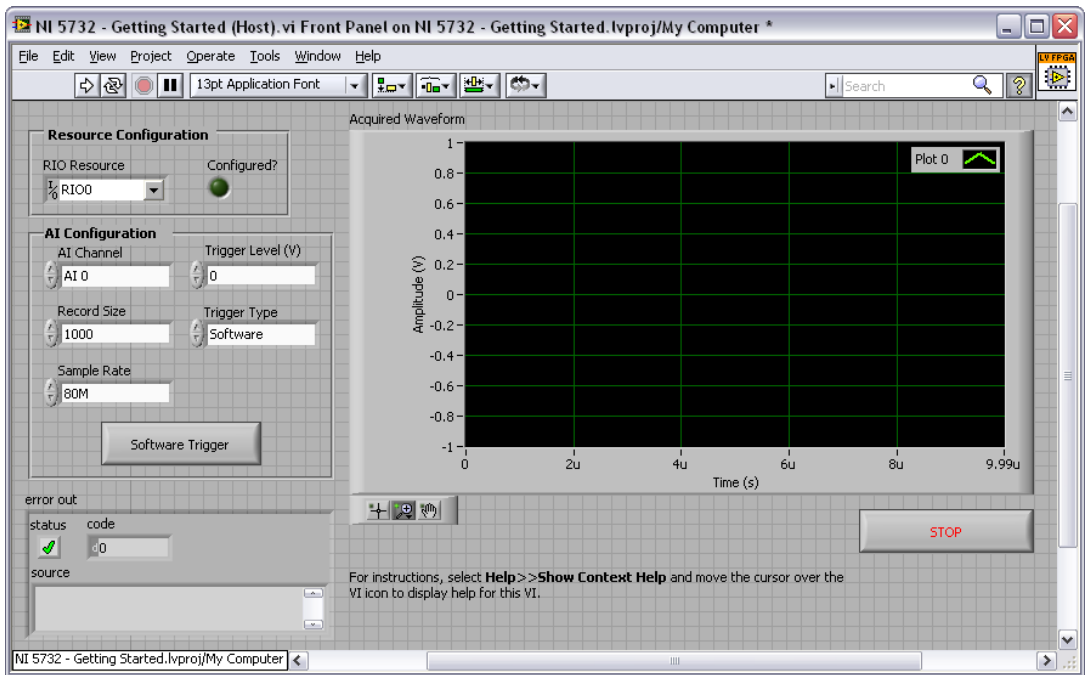

Figure 5. NI 573x - Getting Started (Host) VI Front Panel
13. Click the **Software Trigger** button if you selected **Software Trigger** in the **Trigger Type** control. The VI acquires data and displays the captured waveform on the **Acquired Waveform** graph as shown in Figure 5.